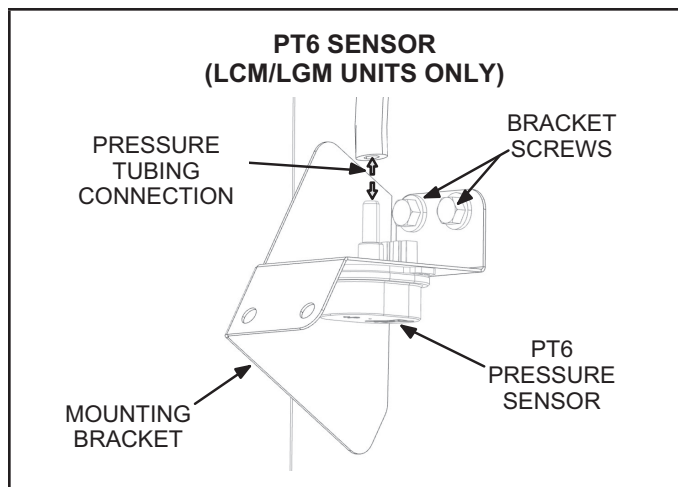

FIGURE 3
- 9 - *LCM/LGM Units Only* - Disconnect the pressure tubing from PT6 pressure sensor. See FIGURE 3. Remove two screws and remove sensor/bracket assembly (note the orientation) from existing blower housing. Install the sensor/bracket onto the replacement blower assembly. Reattach the tubing in the same manner they were removed.